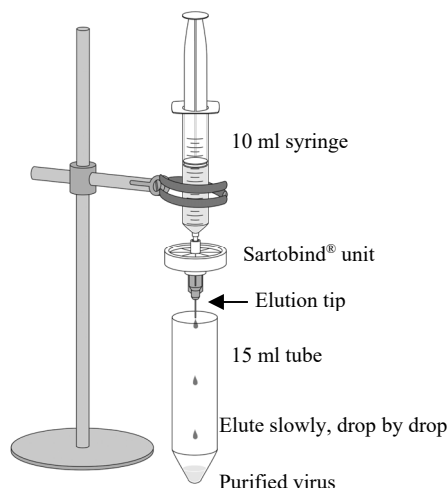

Figure 5 Elution set up.
4. Hold the syringe vertically. Very slowly (drop-by-drop) pass 1 ml Elution Buffer through the Sartobind unit and collect in a sterile 15-ml tube. (See Figure 5.)